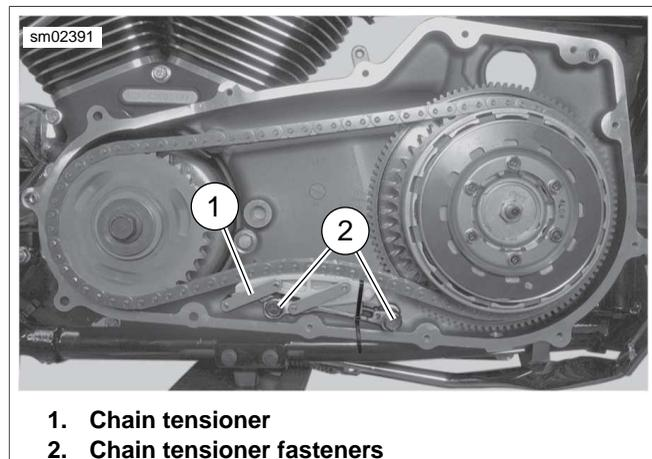

Figure 6-5. Chain Tensioner
4. See Figure 6-5. Remove chain tensioner fasteners (2) then remove chain tensioner (1).